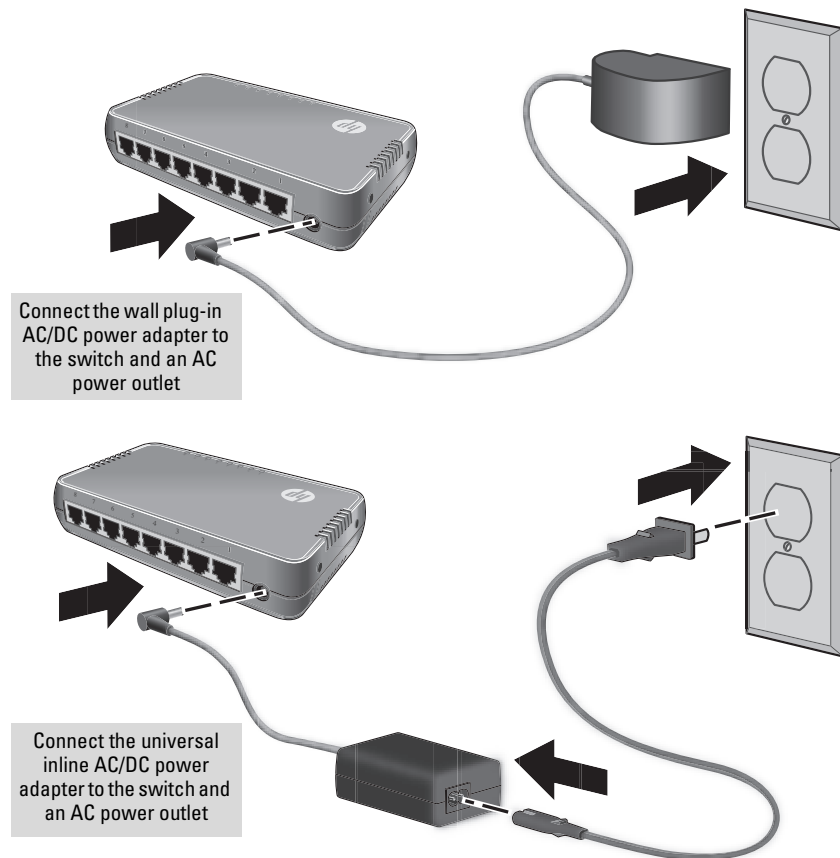

Figure 2-1. Connecting the switch power adapter
1. Plug the AC/DC adapter's power cord into the switch, and then plug the AC/DC power adapter into a nearby AC power source, as shown in Figure 2-1 on page 2-4.